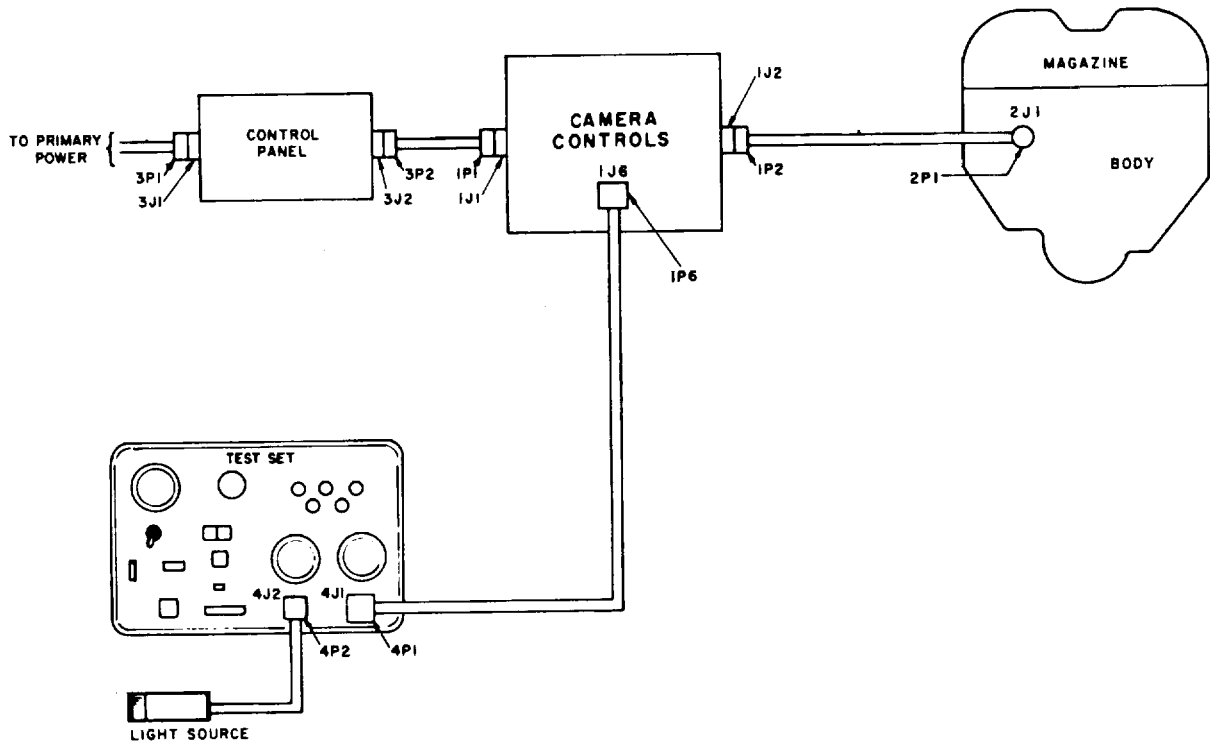

Figure 33. Test Set and Camera, Interconnecting Diagram.
- j. Insure that camera components are interconnected as shown in figure 33.